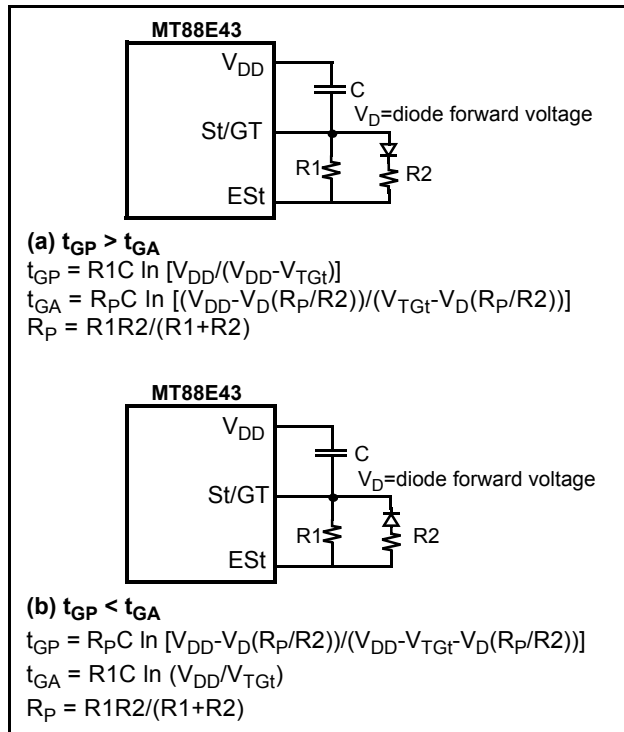
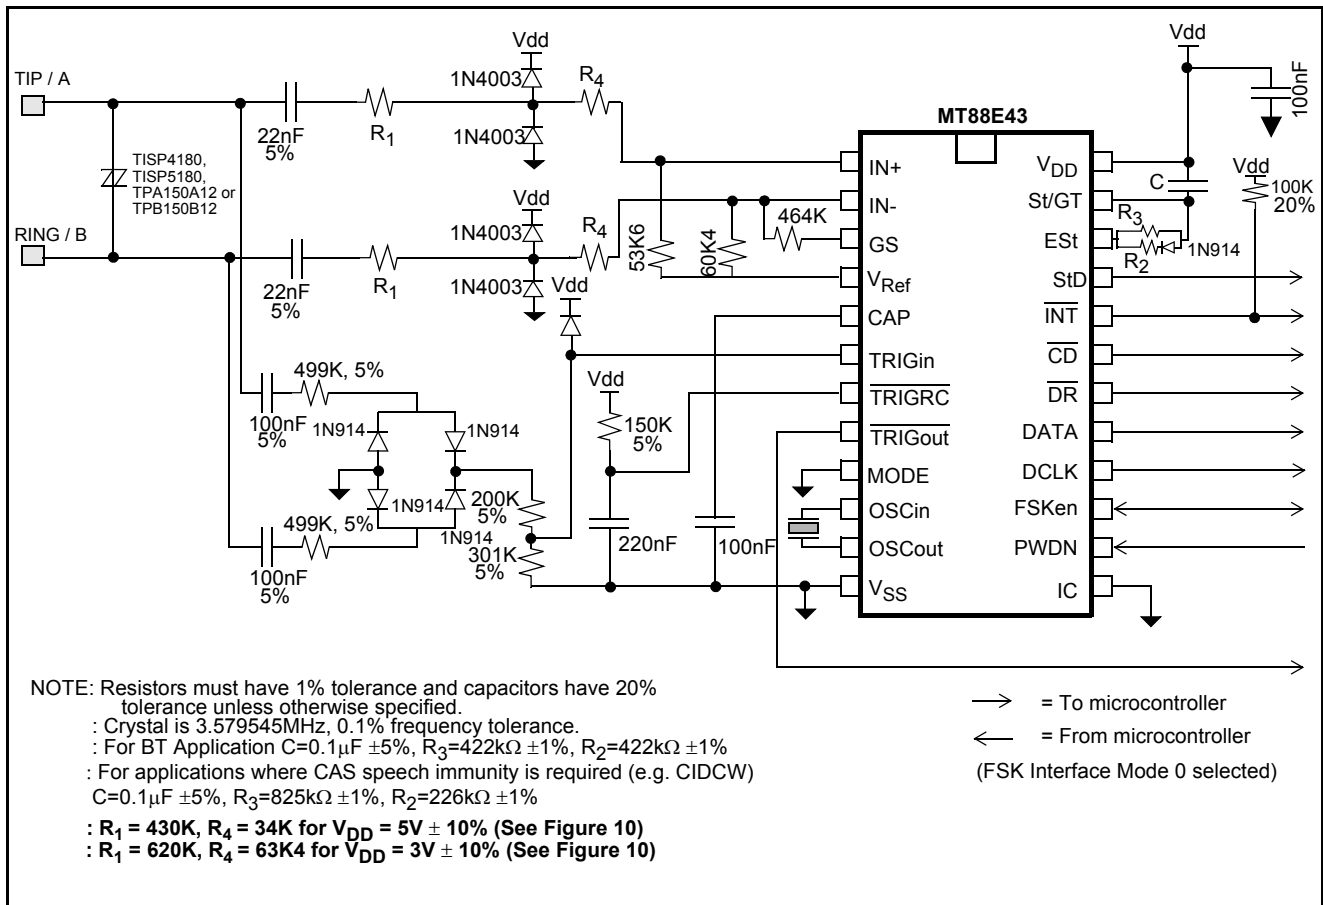
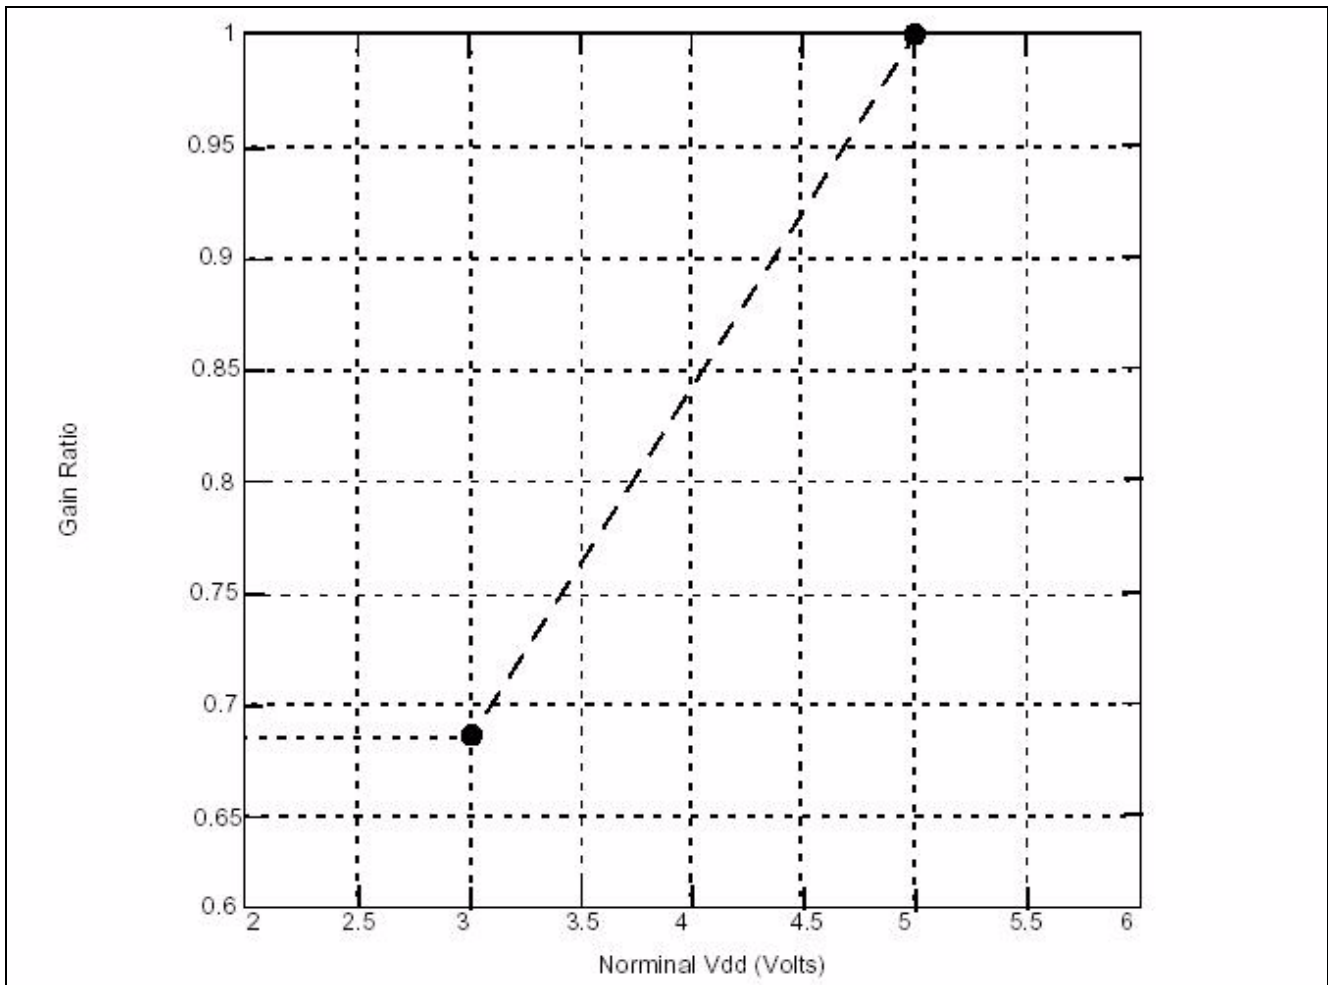

Figure 5 - Guard Time Circuits with Unequal Times
Figure 9 - Application Circuit
Figure 10 - Gain Ratio as a function of Nominal Vdd
BT specifies that the idle state tone alert signal recognition time should not be less than 20 ms when both tones are used for detection. That is, both tones must be detected together for at least 20 ms before the signal can be declared valid. This requirement can be met by setting the t_{GP} (refer to Figure 5) to at least 20 ms.
BT also specifies that the TE is required to apply a D.C. wetting pulse and an AC load 15-25 ms after the end of the alerting signal. If $t_{ABS} = t_{DA} + t_{GA}$ is 15 to 25 ms, the D.C. current wetting pulse and the A.C. load can both be applied at the falling edge of StD. The maximum t_{DA} is 8ms so t_{GA} should be 15-17 ms. Therefore, t_{GP} must be greater than t_{GA} . Figure 5(a) shows a possible implementation. The values in Figures 9 and 11 ($R2=R3=422K$, $C=0.1\mu F$) will meet the BT timing requirements.
The circuits shown in Figures 9 and 11 are application circuits for the MT88E43. As supply voltage (V_{DD}) is decreased, the threshold of the device's tone and FSK detectors will be reduced. Therefore, to meet the BT or Bellcore tone reject level requirements the gain of the internal opamp should be reduced according to the graph in Figure 10. For example when V_{DD}=5V (+/- 10%), R₁ should equal 430 kΩ and R₄ should equal 34 kΩ; and if V_{DD}=3V (+/- 10%) R₁ should equal 620 kΩ and R₄ should equal 63.4 kΩ. Resistors R₁ and R₄ are shown in Figures 9 and 11.
The circuit shown in Figure 9 illustrates the use of the MT88E43 in a proprietary system that doesn't need to meet FCC, DOC, and UL approvals. It should be noted that if glitches on the tip/ring interface are of sufficient amplitude, the circuit will falsely detect these signals as ringing or line reversal.
Note: In the application circuits shown in Figures 9 and 11, the Gain Ratio of MT88E43 opamp is
3. With gain setting as shown in Figure 10. Production tested at $3V \pm 10\%$, $5V \pm 10\%$.